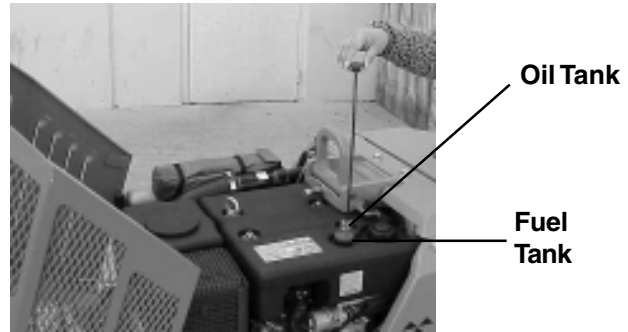

Figure 13. Oil and Fuel Tanks
3. Pull out the dipstick from the oil tank (Figure 13). Check the oil level and refill if necessary. For selection of proper grade of diesel engine oil, refer to Table 3 in Troubleshooting section.
1. Unscrew the fuel tank cap. See Figure 13 for location.